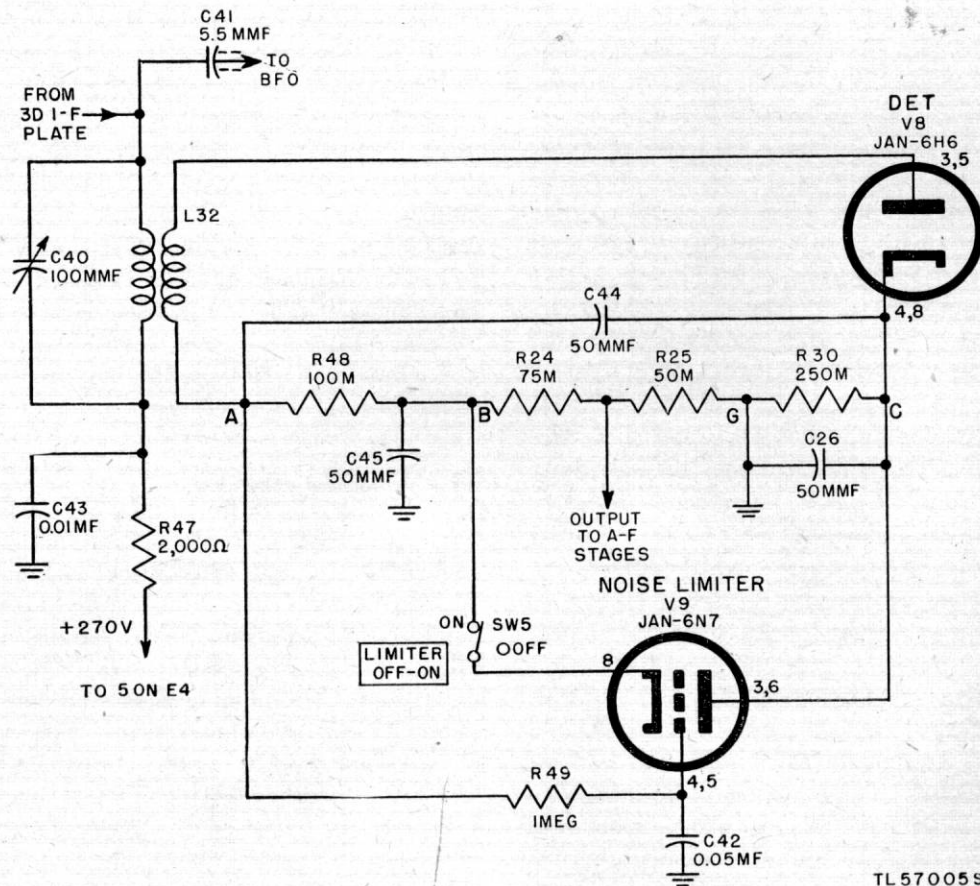

Figure 30. Radio Receiver BC-779-B, functional diagram of detector and noise limiter stages.
through 10,000-ohm resistor R22 and L31. Capacitor C20B (0.05 mf) bypasses the low-potential end of L31 to ground, but prevents the bias voltage from being shorted to ground. Screen voltage is applied through 50,000-ohm series dropping resistor R23; the screen is bypassed by 0.05-mf capacitor C20C. Plate voltage is applied through 2,000-ohm decoupling resistor R47 (fig. 30) and the primary winding of L32. The primary of L32 is tuned by 100-mmf capacitor C40. The 0.01-mf capacitor C43 bypasses h-f components to ground.
63. Detector (fig. 30)
64. Noise Limiter (fig. 30)
a. LIMITER CIRCUIT. The triode sections of Tube JAN-6N7 (V9) are connected in parallel to form a single triode (fig. 30) which is used as a shunt-type limiter. The heater voltage is reduced to approximately 3 volts by 4-ohm series resistor R31 (fig. 56). The control grids (pins 4 and 5) are connected to 0.05-mf capacitor C42, which is grounded at one end, and through 1-megohm (meg) resistor R49 to the most negative point (A) on the diode resistance. The cathode (pin 8) is connected through LIMITER OFF-ON switch SW5 to a point of higher potential (B) with respect to point (A), and the plates (pins 3 and 6) are connected to the point of highest potential (C)
b. The r-f voltage across R34, approximately 465 kc, is applied through capacitor C41 to the input circuit C40-L32 of detector stage V8 (fig. 30). This r-f voltage mixes in the detector with the 465-kc i-f signal from the 3d i-f tube, V7, resulting in a beat or difference frequency which is applied to the a-f stages of the receiver. By adjusting the BEAT OSCILLATOR control, C47, the pitch of this difference frequency can be controlled at will. Furthermore, the BEAT OSCILLATOR control may be set to obtain the desired difference frequency tone above or below the intermediate frequency, depending on the side which gives the more satisfactory reception. In addition to being necessary for proper reception of c-w code signals, the bfo is useful for locating weak signals of any kind. As indicated in paragraph 65e, capacitor C17 is connected in parallel with the a-v-c time constant determining capacitors C56 and C18 during a-v-c reception to increase the time constant when the bfo is being used for c-w code signals. When the SIGNAL MOD-CW switch, SW3, is in the MOD position, the bfo does not operate since the plate and screen supply is cut off. In this position the additional timing capacitor, C17, is disconnected from the a-v-c line, since it is required only for a-v-c c-w code reception.